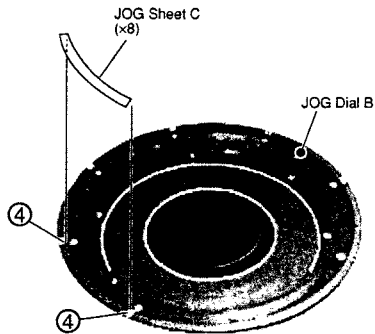

Fig. 7 (Bottom View)
- ① Be careful not to bend and fold the JOG Sheet C.
- ② Put a lubricant (GEM1038) on the sheet.
- ③ Confirm that the dust or trash do not adhere to pasting side (JOG Dial B).
- ④ Pasting method: Match the inside diameter direction with edge side of the inside diameter of JOG Dial B, and match eight places of periphery directions in rib. (No good JOG Dial B protruding outward) (Fig. 7)